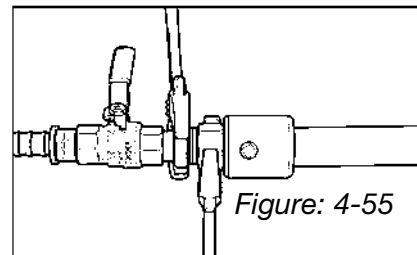

Figure: 4-55
9. Thread nut onto adapter previously installed on the equipment. Using appropriate wrenches, hold adapter and tighten nut to proper torque specified. Figure: 4-55. Do not over tighten or use any pipe dope or thread sealants on this connection. This is a metal-to-metal seat and will not seal if pipe dope or thread sealants are used. Sealants are to be used on the NPT connection to the equipment only!